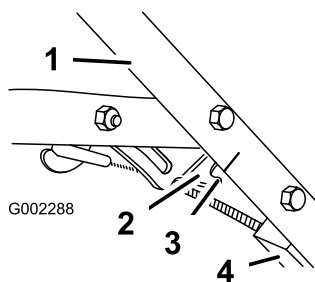

Figure 27
4. Loosen the nut on the cable bracket (Figure 27).